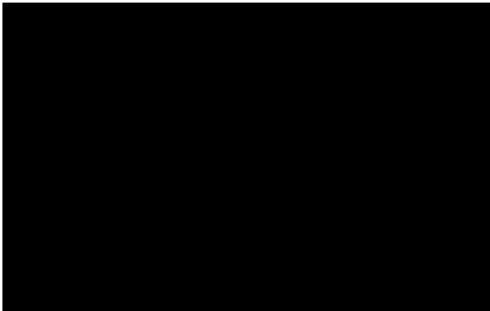

figure 11.
- Start to lift the basket with a PV Module to the roof with 4 workers that have already training certificate in lift as shown in figure 11.